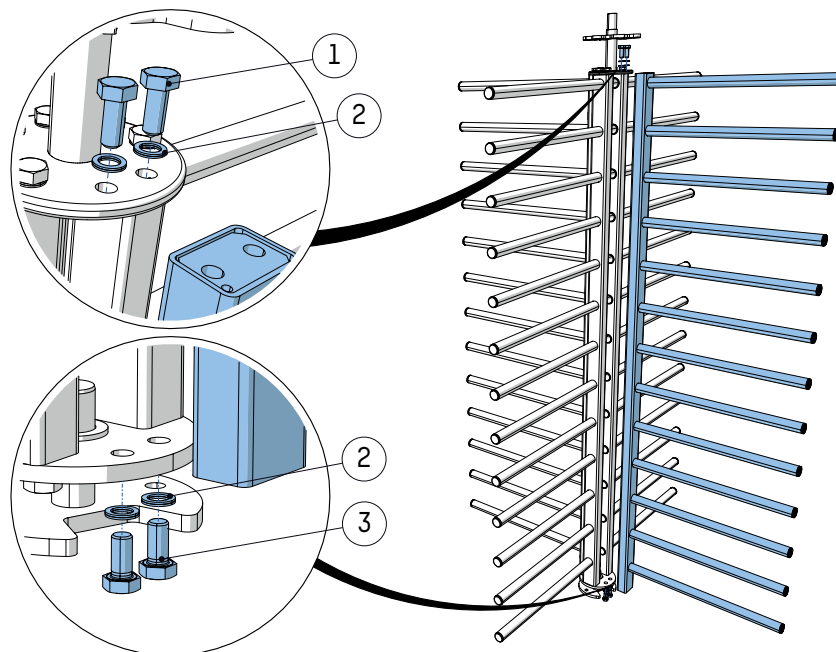

Fig. 25
- Position the mobile comb between the upper flange and the lower plate. (Fig. 25)
- Position the **hexagonal flange bolts (1) (DIN 6921) M12x30 pre-coated** and **Nord-Lock M12 washers (2), to be used as a pair, without separating them**, on the upper fixing holes of the mobile comb *(and tighten them just to make contact)*.
- Position the **hexagonal flange bolts (3) (DIN 6921) M12x25 pre-coated** and **Nord-Lock M12 washers (2), to be used as a pair, without separating them**, on the lower fixing holes of the mobile comb *(and tighten them just to make contact)*.